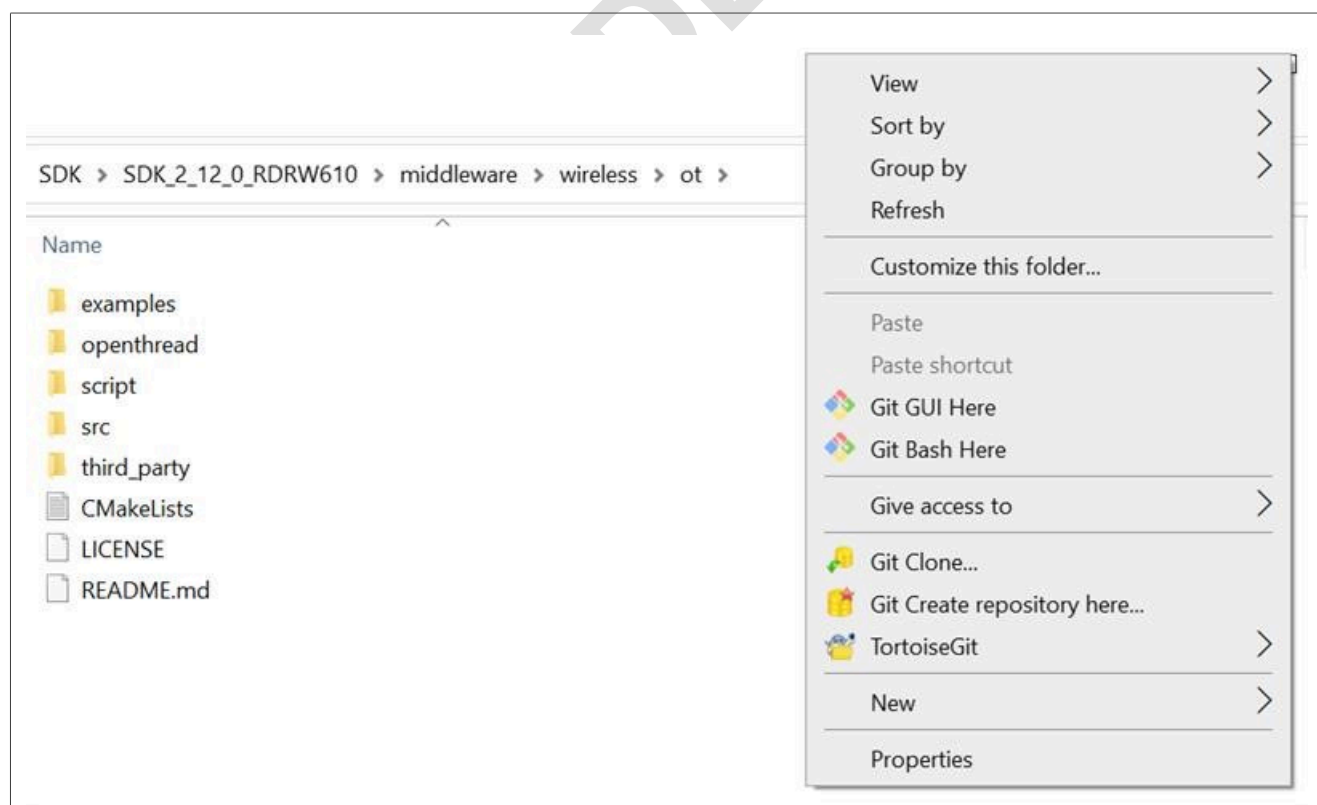

Figure 5. *Git Bash Here* in right-click menu of Windows Explorer
- Right click any directory and look for *Git Bash Here* in the menu (Figure 5)